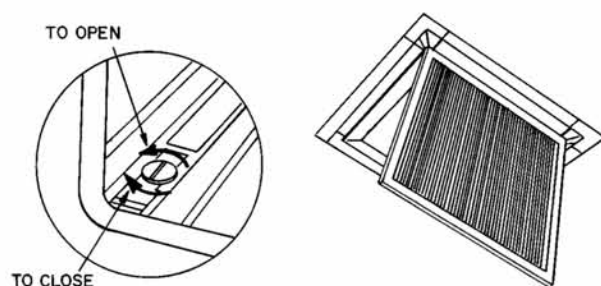

Fig. 19 — Intake Grille Slotted Screws
1. Open intake grille(s) by turning screws as shown in Fig. 19.